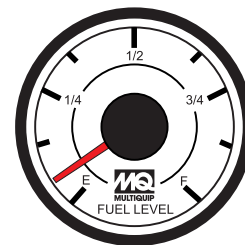

Figure 9. Fuel Cap Gauge
1. Check the fuel gauge (Figure 9) to determine if the pump's engine fuel is low.